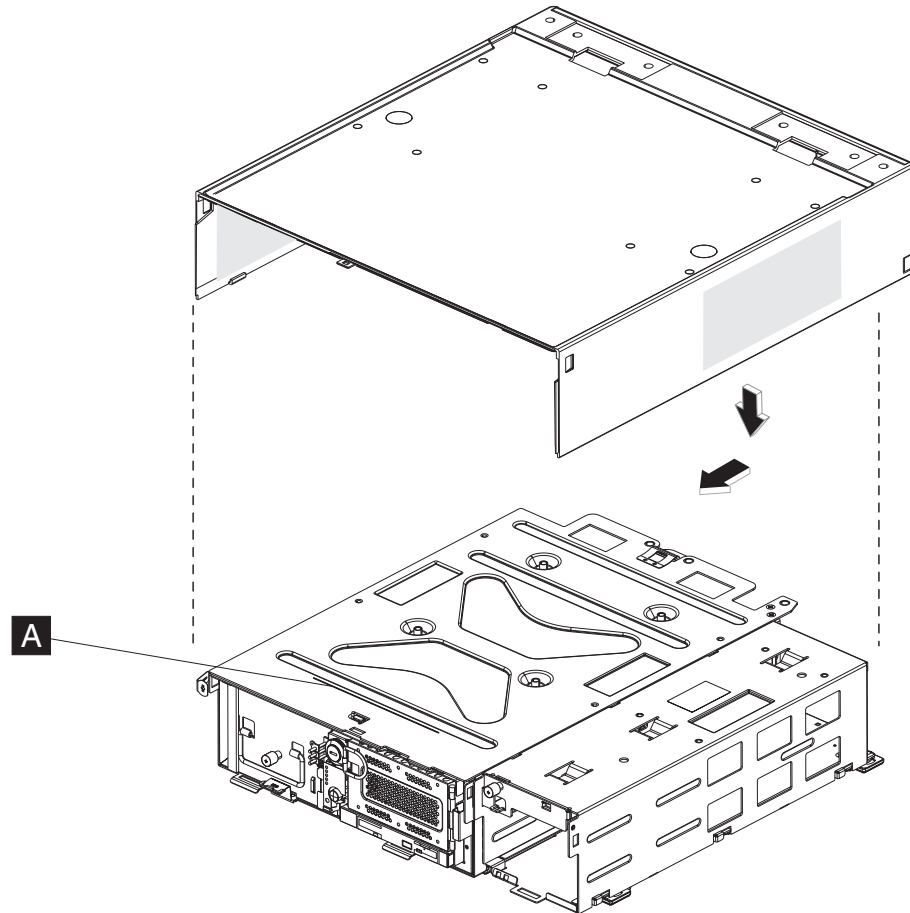

Figure 22. Installing the top cover
1. Place the top cover in position over the system unit so that the front edge aligns with the line imprinted on the top plate (**A** in Figure 22).